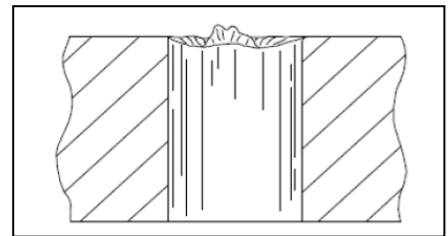

Figure 6 Hinged Burr
- d. Hinged Burr: (see Figure 6):